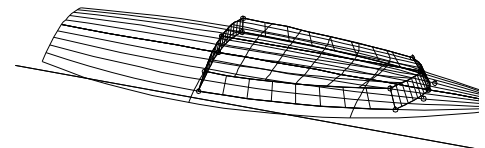

Fig. 19
**10 Drag 'r1' aft** along the centerline to the red deck beam (Fig. 19).